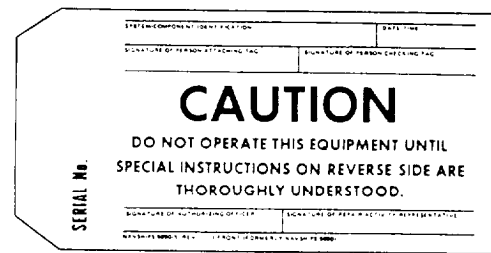

Figure 1-6.—CAUTION tag.
5. CAUTION tag (See fig. 1-6.)—This is a YELLOW tag used as a precautionary measure. It provides temporary special instructions or warns that unusual caution must be used to operate the equipment. These instructions must state exactly why the tag is installed. Use of phrases such as “DO NOT OPERATE WITHOUT EOOW PERMISSION” is not appropriate. Yellow tagged equipment or systems must not be operated without permission from the responsible supervisor. The CAUTION tag may not be used if personnel or equipment can be endangered while working under normal operating procedures. In such cases, a DANGER tag must be used.